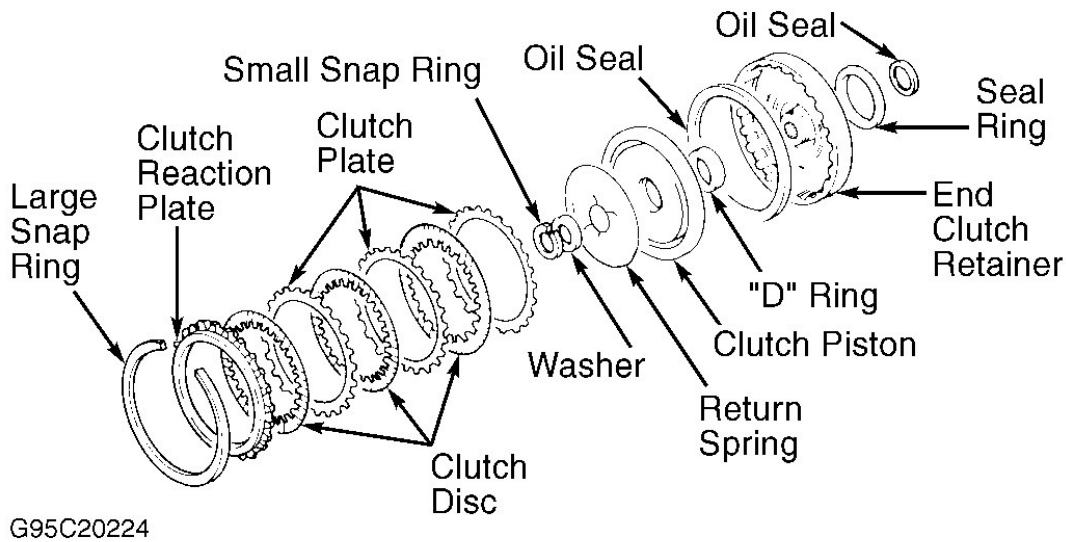

Fig. 25: Exploded View Of Typical End Clutch
1. Remove large snap ring, clutch reaction plate, clutch discs and clutch plates from end clutch retainer. See **Fig. 25** . Note direction and number of clutch plates and clutch discs installation for reassembly reference, as different models may use different number of components.
3. Install return spring and washer on clutch piston. Ensure return spring is facing correct direction. See **Fig. 25**.